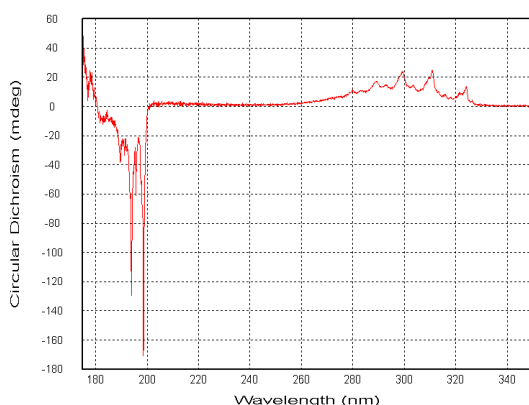

Figure 113: CD spectrum of (R)-3-methylcyclopentanone
9.3.8 (R)-3-Methylcyclopentanone
The CD spectrum of vaporous (R)-3-methylcyclopentanone using a 10 mm path length cuvette, plotted as CD (mdeg) against wavelength (nm), is shown in Figure 113. The acquisition settings are given in Table 12.
Table 12: Acquisition settings for the spectrum in Figure 113